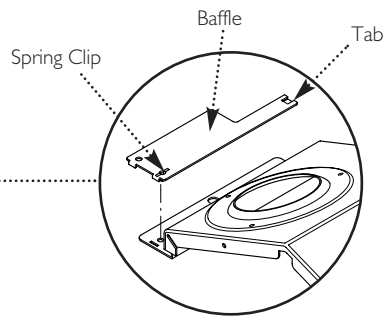

Fig. 42
11. Ease the front edge of the left hand baffle upwards, disengaging the spring clip. Disengage the tab on the baffle from the slot in the fan hood (Fig. 42).